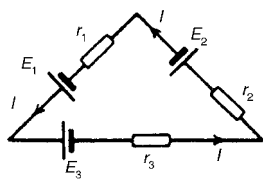

Figure 13.88
- 2 Which of the following statements is true? For the circuit shown in Fig. 13.88: